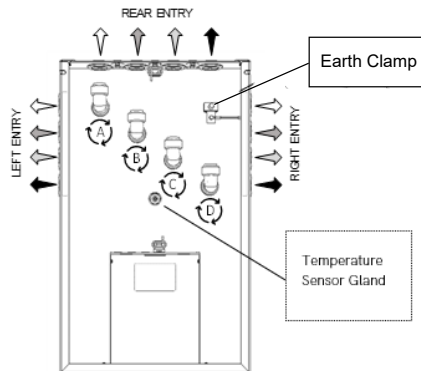

Figure 7 - Flextherm Eco G2 D Ports
- Rotate the elbows to the side you wish to connect the hydraulics (left, right or back) (Figure 7).
- The cold water inlet must be connected to Port D & the hot water outlet to Port A. Meanwhile the External Heat Source Flow to Heat Battery must be connected to Port B & External Heat Source Return from the Heat Battery to Port C (Figure 7, left hand side).